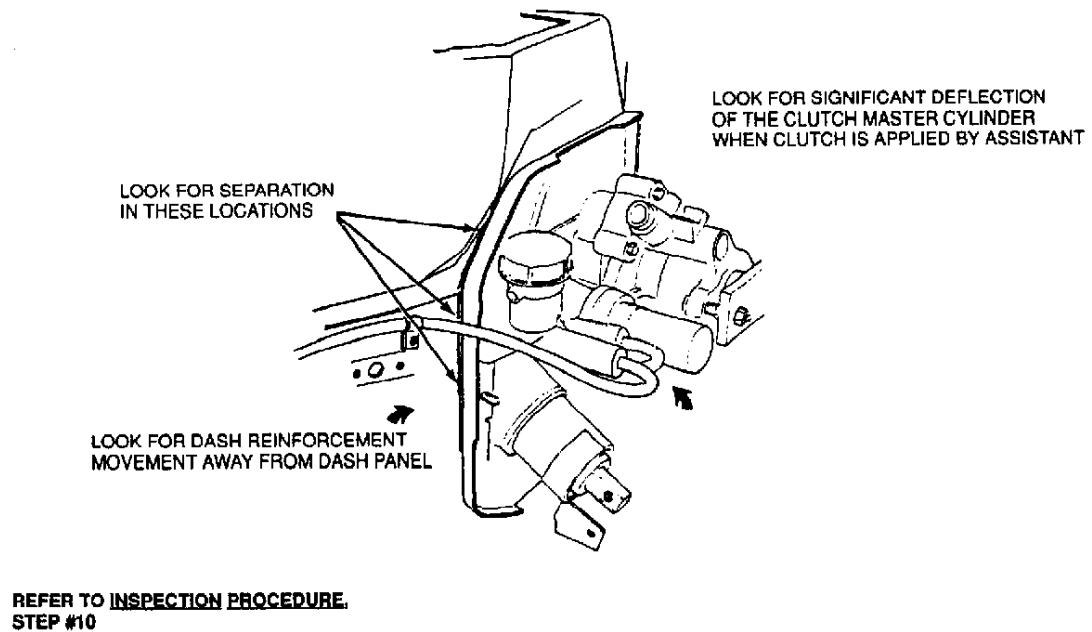

Fig. 3: Checking Reinforcement (Dash Reinforcement Points)
- c. Look for the dash reinforcement moving away from the dash, Figure 3.